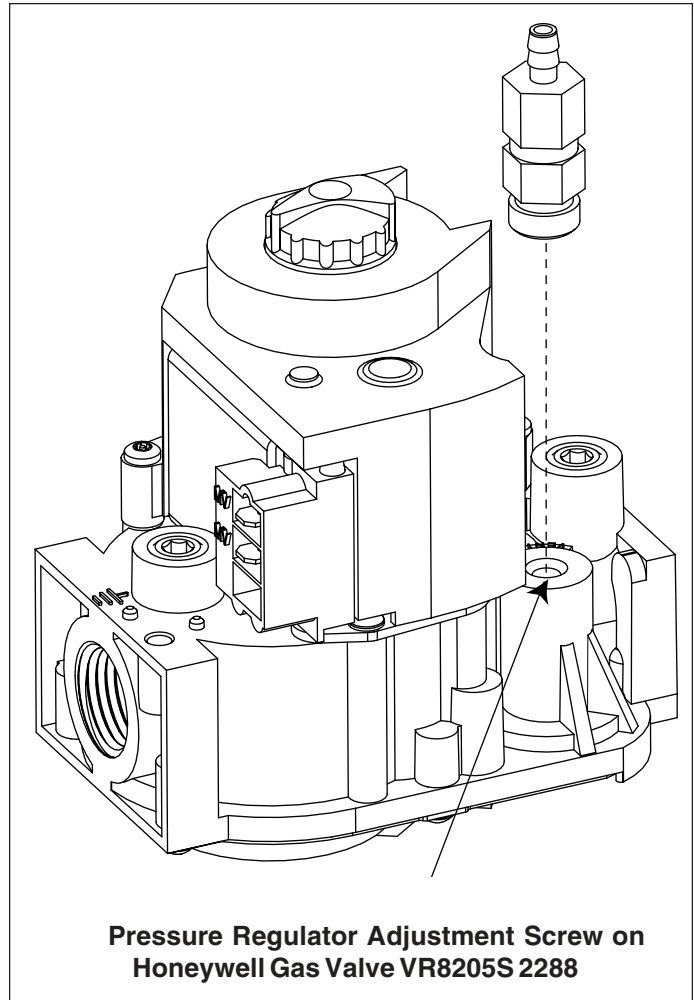

Figure 3
3. Remove the pressure regulator adjustment screw located underneath the cap screw. For condensing furnaces, the Pressure Regulator Adjustment is located underneath the brass fitting (see Figure 3).
2. With a 3/16 inch Allen wrench, remove the INLET pressure tap plug located on the INLET side of the gas valve, refer to Figure 3 for more details.